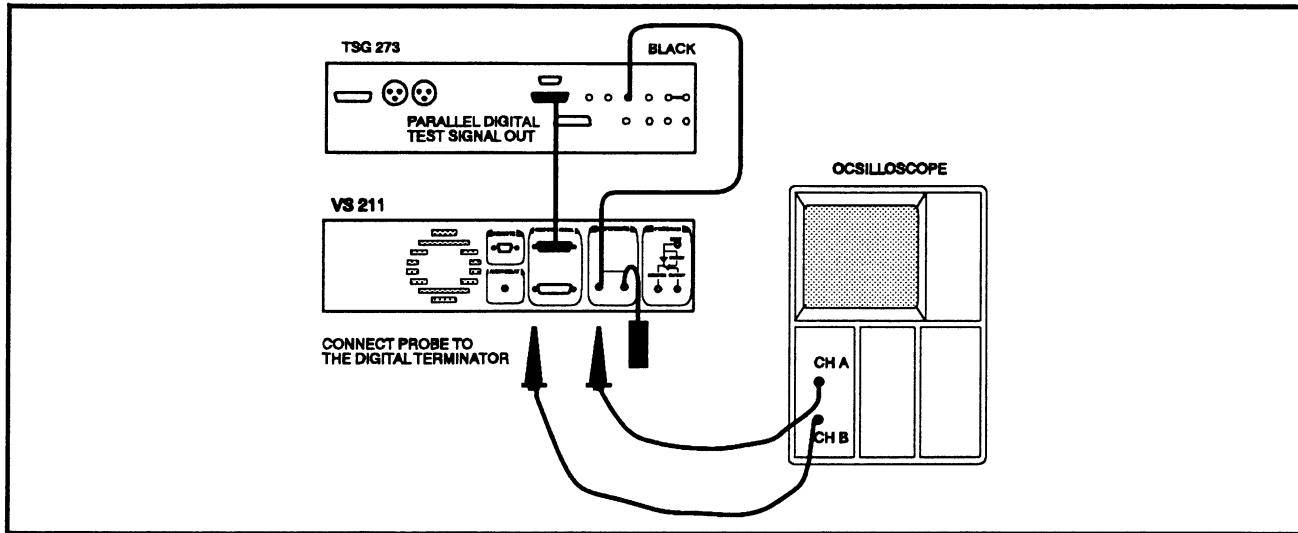

Fig. 4-18. Setup to check the Composite Digital clock.
- b. Connect a 10X probe from the oscilloscope CH A input to the CLK connection on the termination fixture and another 10X probe from the CH B input to the LSB connection. Make sure to ground each of the probes. (See Fig. 4-18.)